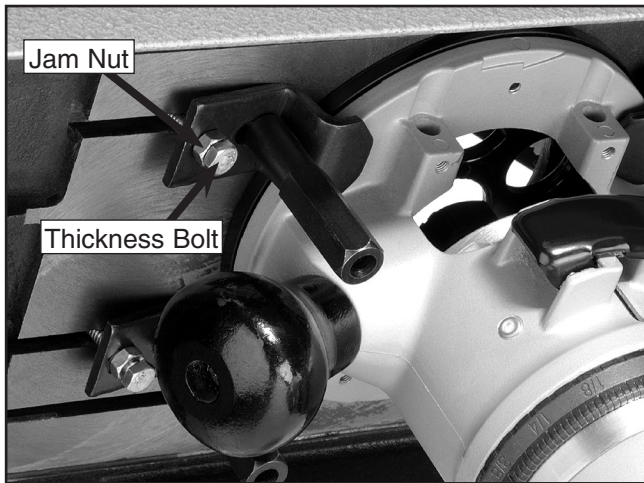

Figure 14. Adjust the router clamp thickness bolts.
4. Adjust the thickness bolts and the jam nuts on each of the router clamps to allow the router base to be secured against the table (**Figure 14**).